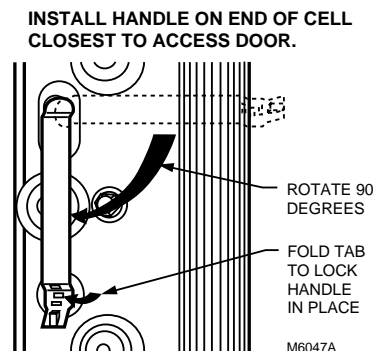

Fig. 28. Install handle on end of cell that will be closest to access door.
2. Hold the handle sideways and insert the solid tab on the back of the handle into the slot in the cell. Turn the handle 90 degrees clockwise to align the divided tab with the square hole. See Fig. 28.